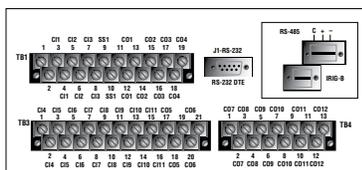

Figure 41.
5. Remove any control input and status output wiring from TB1, TB3, and TB4 (Figure 41).
6. Disconnect any serial communications ports and IRIG-B timing connections (Figure 41).